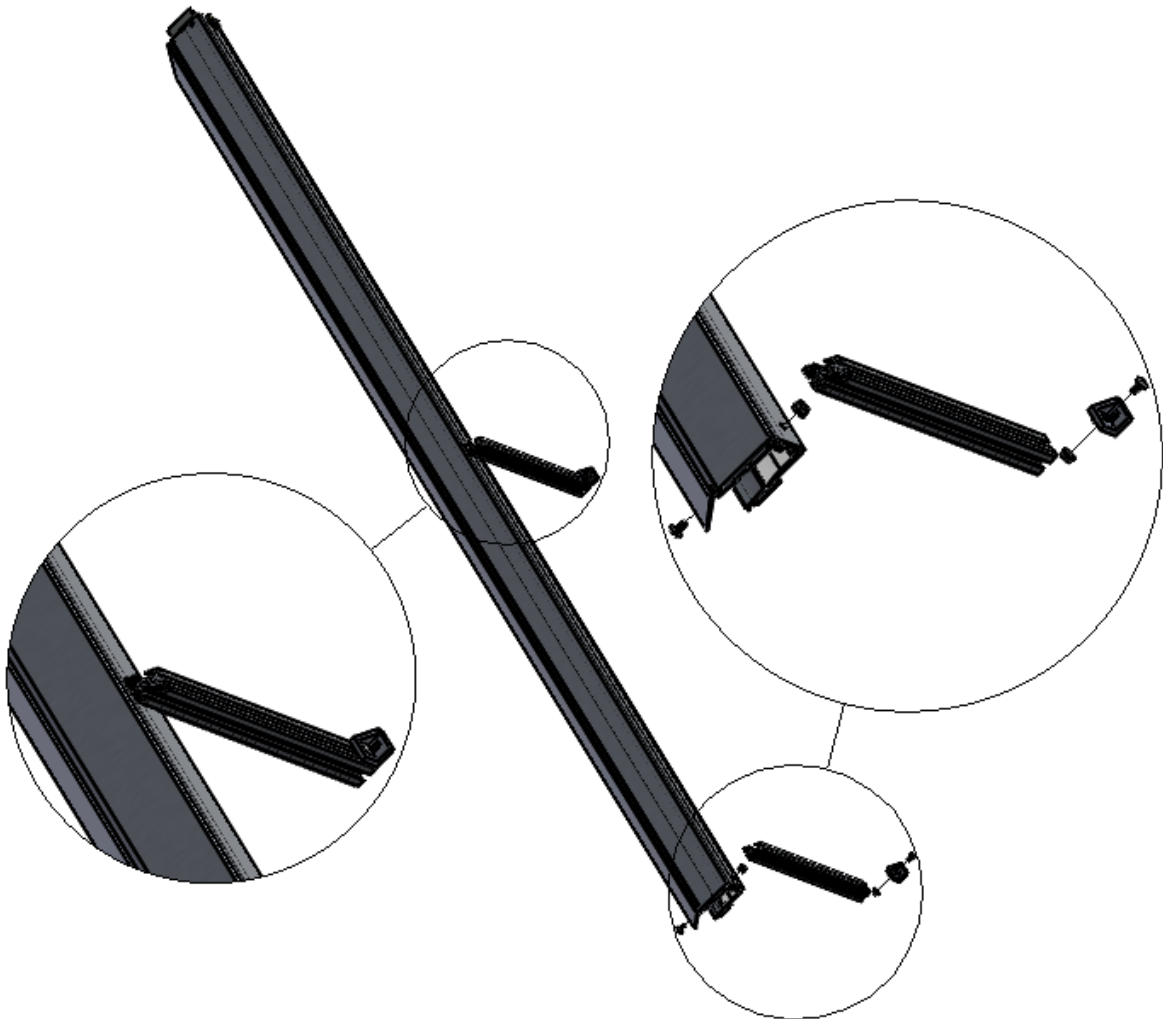

Figure 10 TRACK PROJECTION BRACKET ARRANGEMENT
2. Attach the Track Projection Brackets with the hardware provided. (Figure 10 TRACK PROJECTION BRACKET ARRANGEMENT)